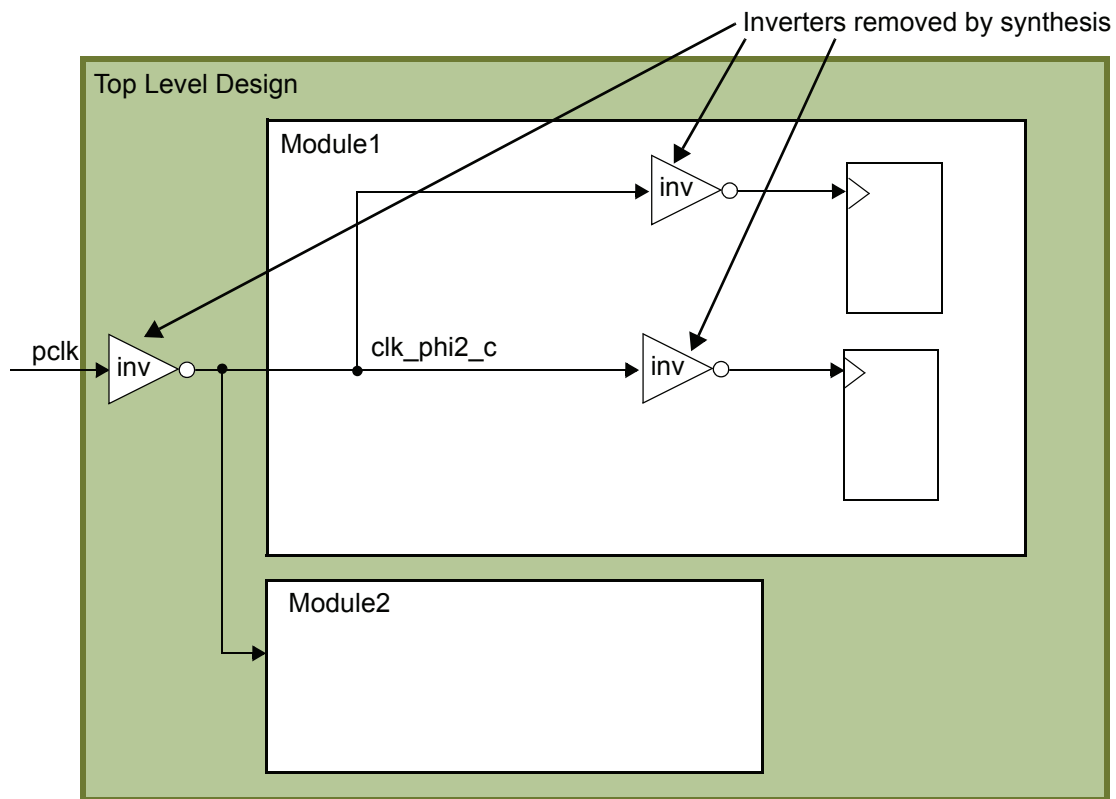

FIGURE 6: CLOCK DISTRIBUTION (NO CLOCK GATING)
- ▶ The synthesis tool removes the two inverters from the clock tree as shown in Figure 6.